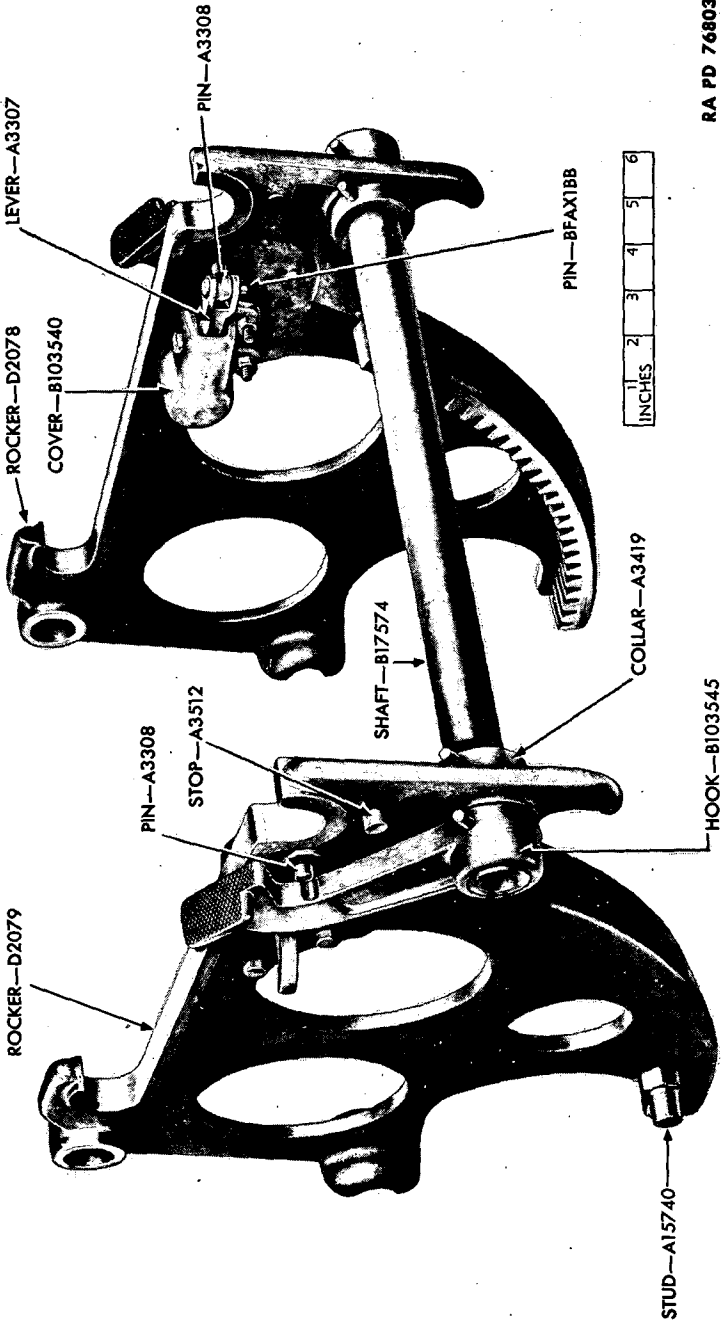

Figure 69—Rocker Assembly
(2) These rockers are segments of internal gears which mesh with pinions mounted on the ends of the rocker pinion shaft (fig. 69). The rocker pinion shaft rotates in bearings mounted in the front trail side members.
(3) DISASSEMBLY OF ROCKER ASSEMBLY (figs. 69 and 71).
(a) Remove taper pins from both trunnion hooks, and slide or tap hooks off rocker connecting shaft. Then slide rockers off the shaft. Do not remove either of the two rocker connecting shaft collars unless damaged. Then remove the same as trunnion hooks (figs. 69 and 71).